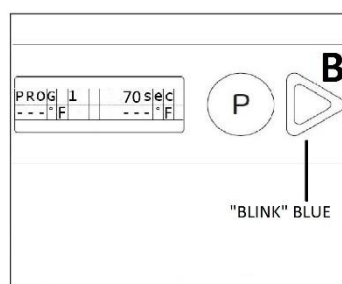

Fig.16
- During thermo stop washing phase button B blinks with blue light until final rinse temperature is reached and the cycle is finished. It's possible to finish the cycle by pressing button B (Fig.16)